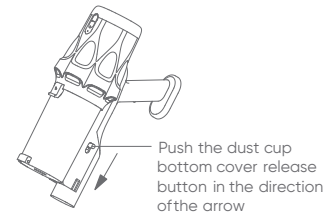

Figure 1
2. Above the trash can, follow the operation shown in Figure 1, and the dust cup bottom cover will rotate and open according to the method shown in Figure 2.